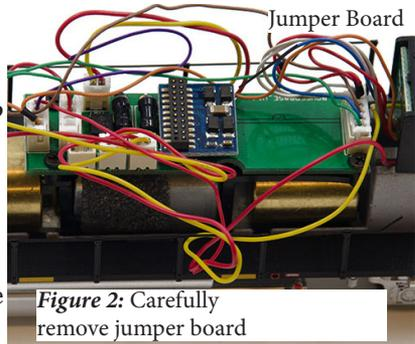

Figure 2: Carefully remove jumper board
- Remove the jumper board from the locomotive's 21MTC pins. **(Figure 2)** The jumper board allows the loco to operate on a standard DC track or in analog mode on a DCC track. **If the loco also has a 8pin NMRA socket, any jumpers should also be removed.**